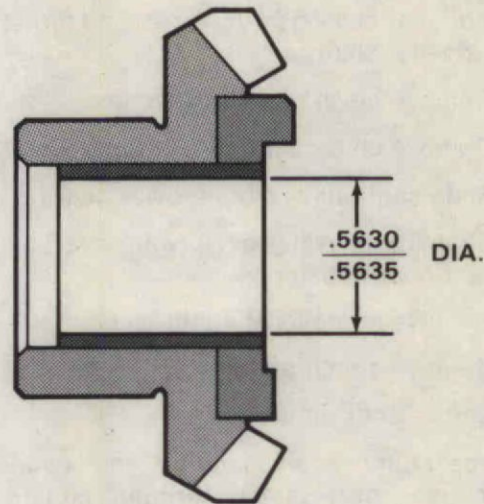

Figure 30 Front Bevel Gear Bearing I.D.
10. Inspect front bevel gear with bearing. Measure I.D. of bearing. Bearing can not be replaced except as an assembly. Figure 30.